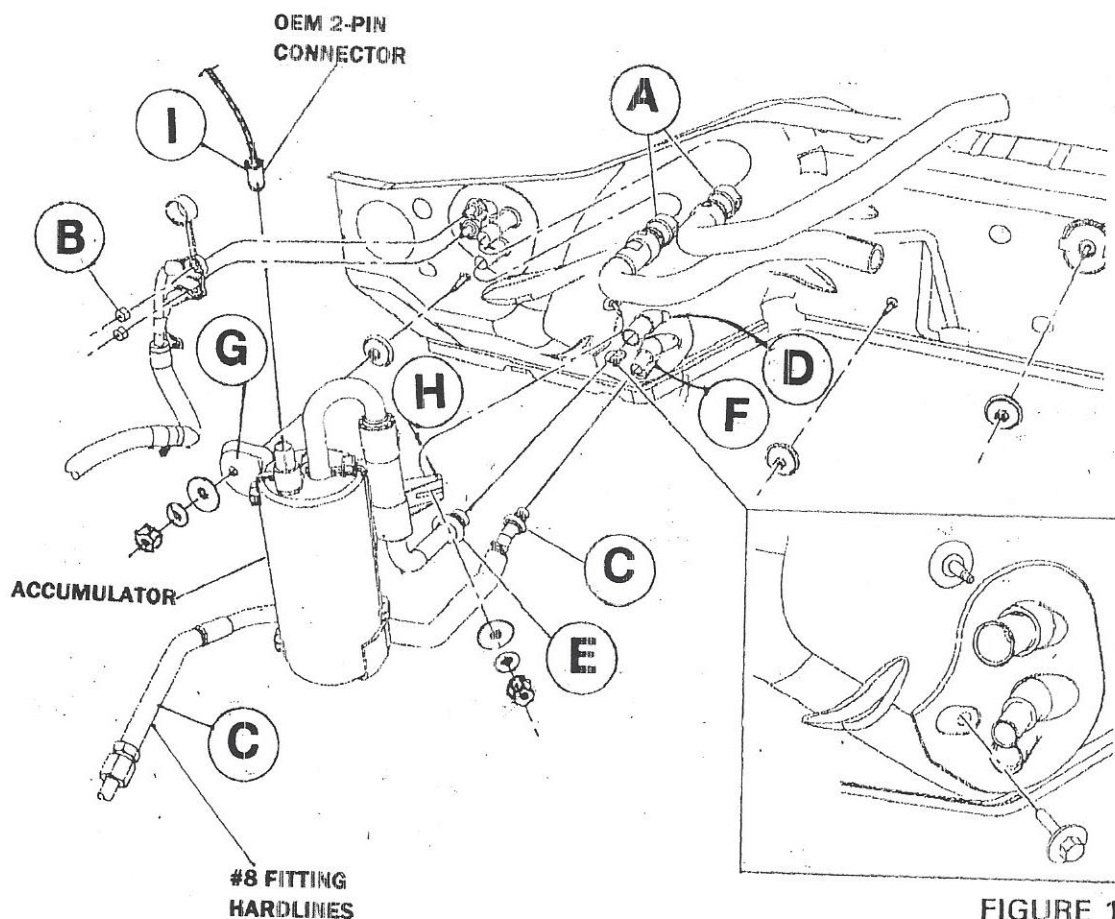

FIGURE 1
**NOTE:** Refer to Figure 1 in the **ENGINE COMPARTMENT** set of instructions.